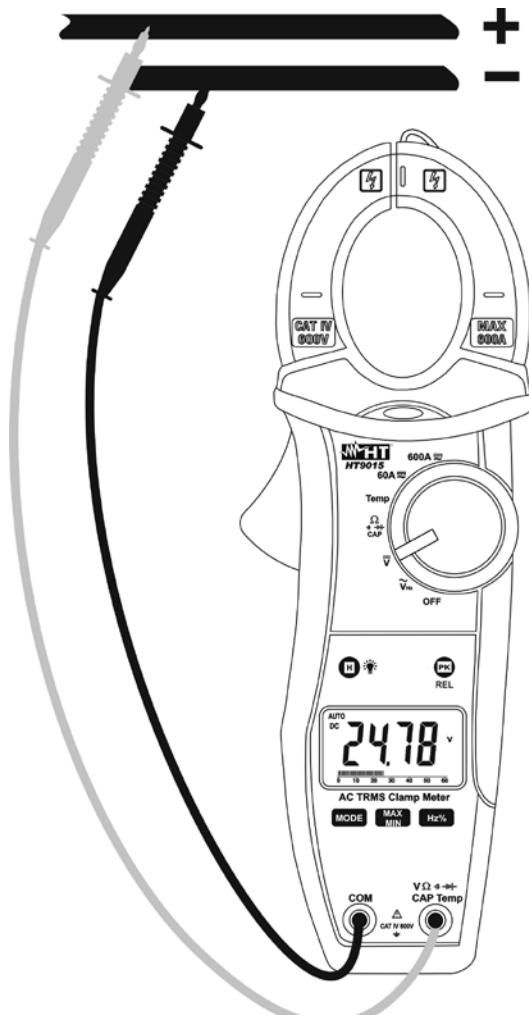

Fig. 4: Taking DC voltage measurements
2. Insert the red test lead plug into **VΩHz%Temp** jack and the black test lead plug into **COM** jack (Fig. 4)